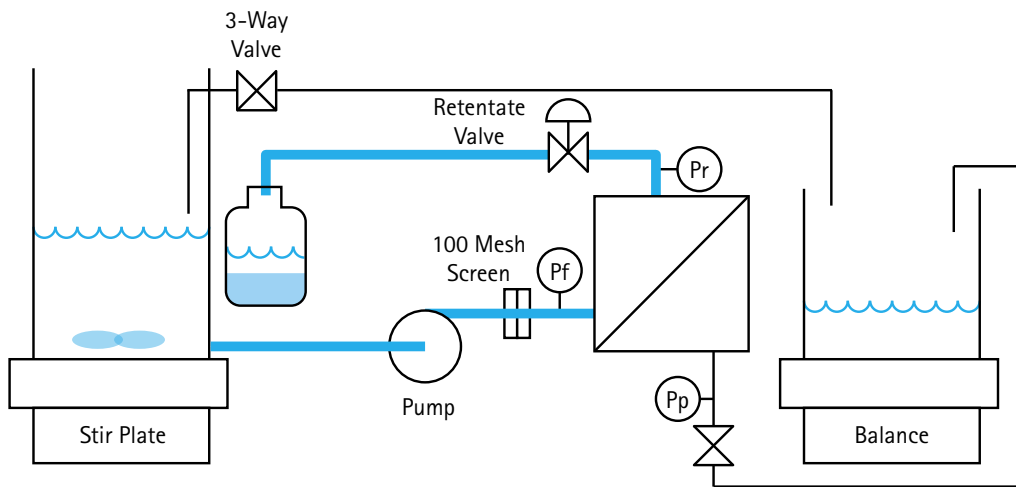

Figure 9.
- 9.4 Set the system flowpath to the blowdown/recovery mode as shown in Figure 9. Pump the protein product out at low ΔP into an appropriate sized container. When air bubbles appear stop the pump. Do not allow the protein product to foam.
- 9.7 Set the system flowpath to the blowdown/recovery mode as shown in Figure 9 (next page). Pump the recirculated buffer out at low ΔP into an appropriate sized container. When air bubbles appear stop the pump.